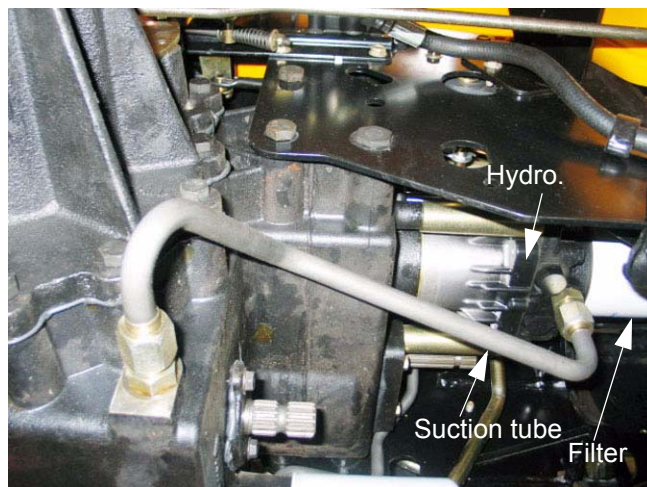

Figure 3.8
- 3.8. Visually inspect the suction tube that feeds fluid to the hydrostatic drive from the sump of the transmission. If it is kinked or crushed, replace it. See Figure 3.8.